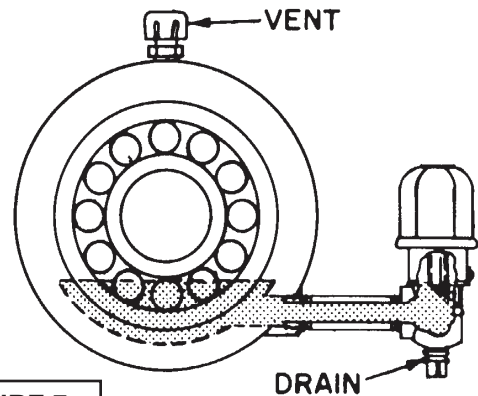

FIGURE 7
Opto-Matic Oiler (See Figures 7 & 8)-On pumps where the Opto-matic constant level oiler is used, the oiler will provide an oil level to the center of the lower ball of the bearings, if the pump is sitting level and the oiler is properly filled. Refill with SAE 30 non-detergent oil. Replace vent plug (item 2) when finished refilling.